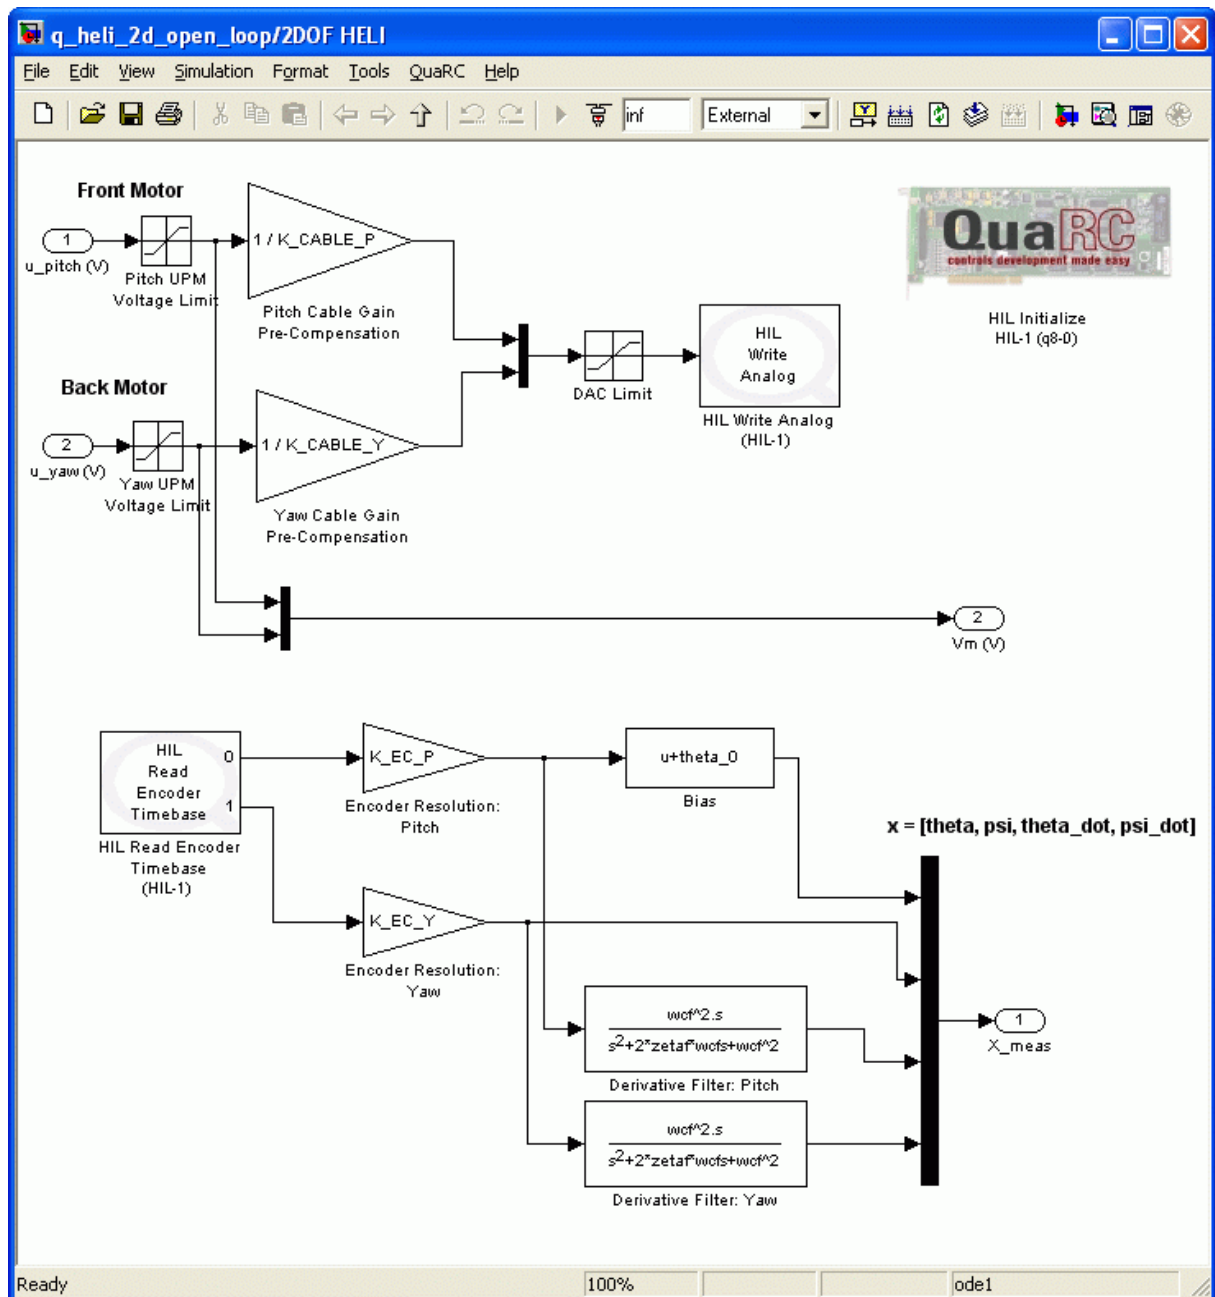

Figure 32: 2DOF HELI subsystem contains QuaRC blocks that interface with hardware.
5. Open the *2DOF HELI* subsystem. Its contents are shown in Figure 32. This subsystem contains the QuaRC blocks that interface with the hardware of the actual plant. The Analog Output block sends the voltage computed by the controller to the DACB which drives the actuators and the Encoder Input block reads the encoder measurements.
6. **Configure DAQ:** Double-click on the HIL Initialize block in the Simulink diagram and ensure it is configured for the DAQ device that is installed in your system. By default the block shown in Figure 32 is setup for the Quanser Q8 hardware-in-the-loop board.
6. **Configure DAQ:** Double-click on the HIL Initialize block located in the *2 DOF Helicopter – Closed-loop Actual System \ 2 DOF HELI* subsystem, shown in Figure 32, above, and ensure it is configured for the DAQ device that is installed in your system. By default the block is setup for the Quanser Q8 hardware-in-the-loop board.